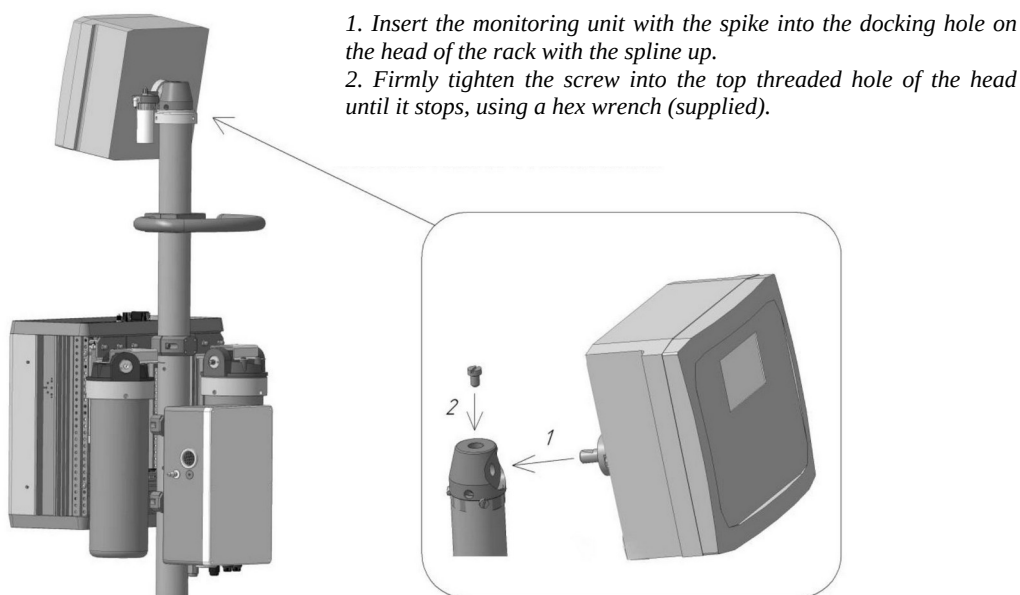

Figure 2.1 - Location and fixing of the monitoring unit
2.2.2.3 Install the monitoring unit to the mounting seat at the top of the rack, as shown in Figure 2.1. The unit is attached to the rack using a detachable connection, in the sequence shown in Figure 2.1.